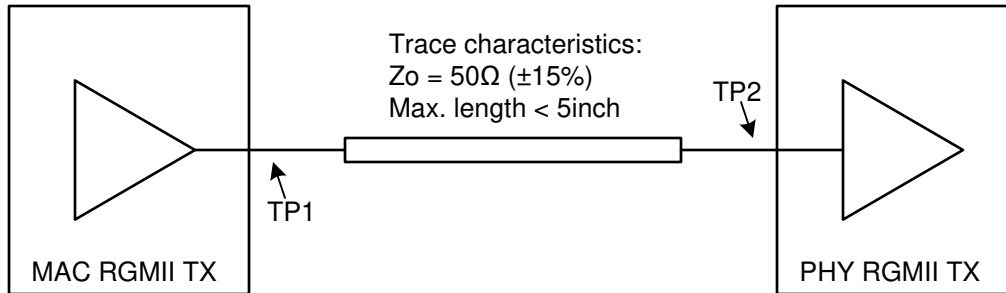

图 7-2. RGMII TX Requirements
- 图 7-2 shows a RGMII interface requirements for TX* signals. MAC RGMII driver output impedance should be 50 Ohm +/-20%.
- Skew for all RGMII TX signals at TP2, in 图 7-2, should be $\pm 500\text{ps}$.
- Signal Integrity at TP1 and TP2, in 图 7-2, should be verified with IBIS model simulation and ensured conformance to following requirements: